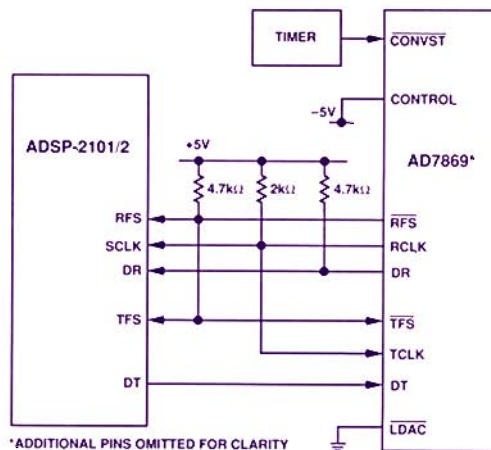

Figure 3. Interfacing the AD7869 to members of the ADSP-2101 family of digital signal processors.
**Interfacing to DSPs:** The AD7869 interfaces directly, with no glue logic, to serial ports of the ADSP-2101, DSP56000, and TMS320C25 processors. Figure 3 shows an interface suitable for the ADSP-2101.